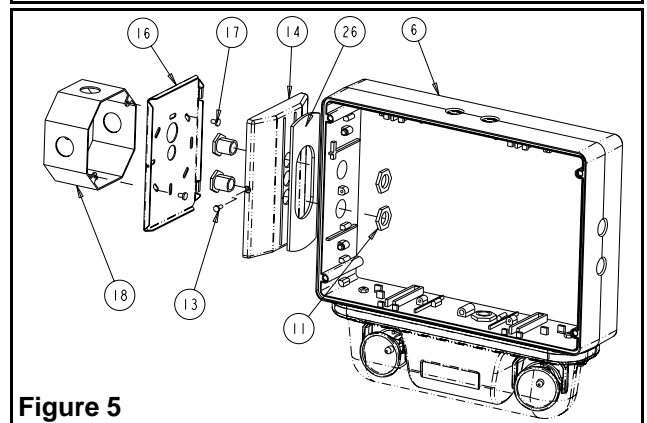

Figure 5
- i. Secure canopy to the frame using the provided nipple/wire assembly. Make sure the gasket is between the canopy and frame, and the nuts inside the exit sign (see fig. 5).